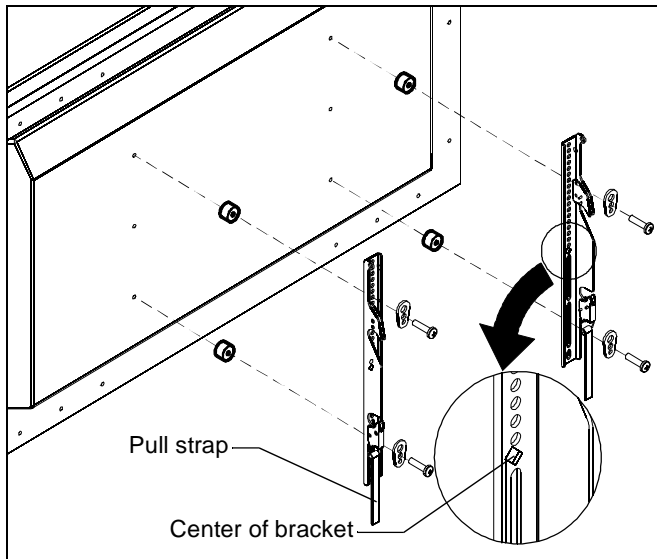

Figure 5
2. Select correct screws, spacers (if necessary) and washers from the hardware bag (A-N) and attach brackets to back of screen. (See Figure 5)